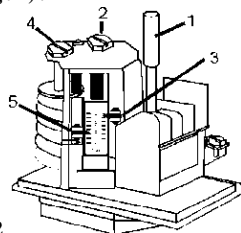

Fig.2
**Setting (Fig.2):**
- Version with manual reset (FF 4-...DRH or DDH): pressure decrease below upper or increase above lower switch point and reset button 1 (per Fig. 2) depressed.